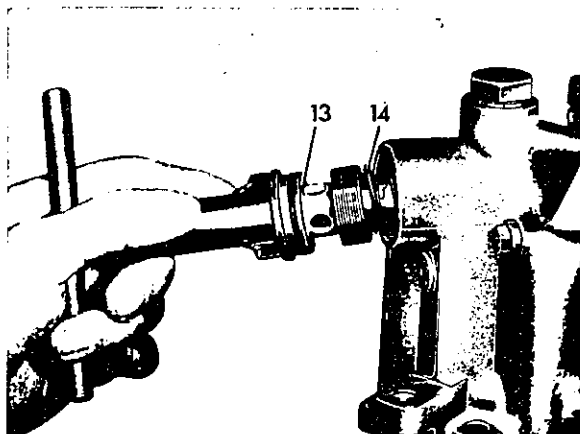

Fig. 7
6 Remove plug for the secondary pump (13) with special tool 115 589 00 11 00. Remove compression spring (14). **Fig. 7**